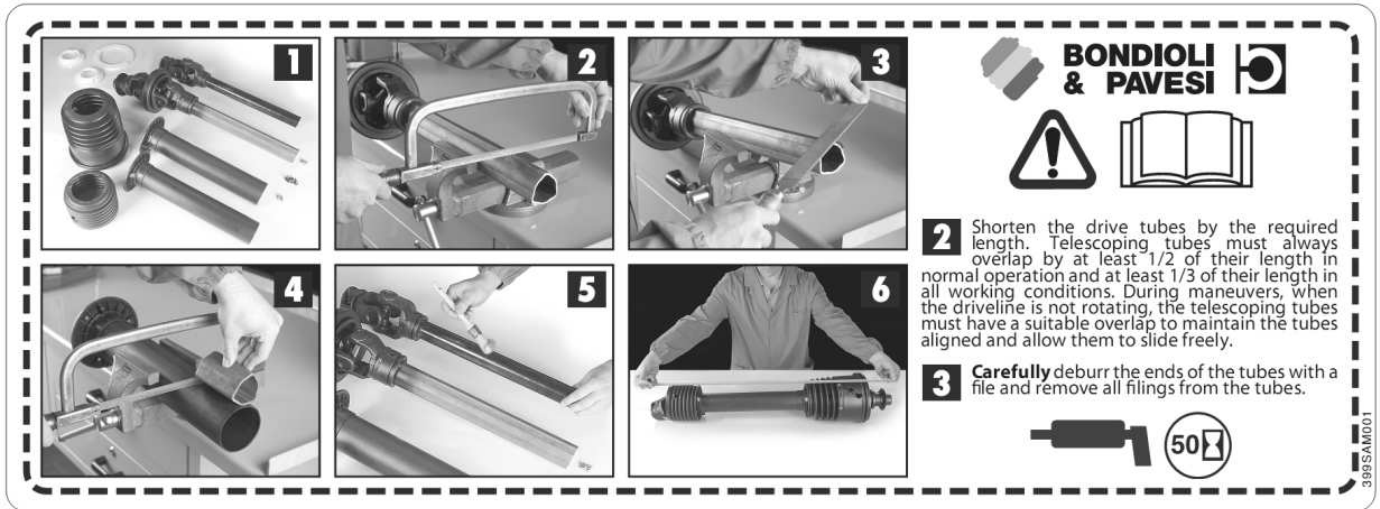

Fig. 19 Instruction of PTO shaft shortening
If need be, shorten the PTO shaft according to its operator's manual given by the shaft's manufacturer (Fig. 19).
To disassemble the flail unscrew nut (M12 z. Property Class 8.8) with open wrench (19), taking both the bolt M12x55 z. Property Class 8.8 and the flail out. To mount new flail follow the steps in the opposite order (**Fig. 19**).